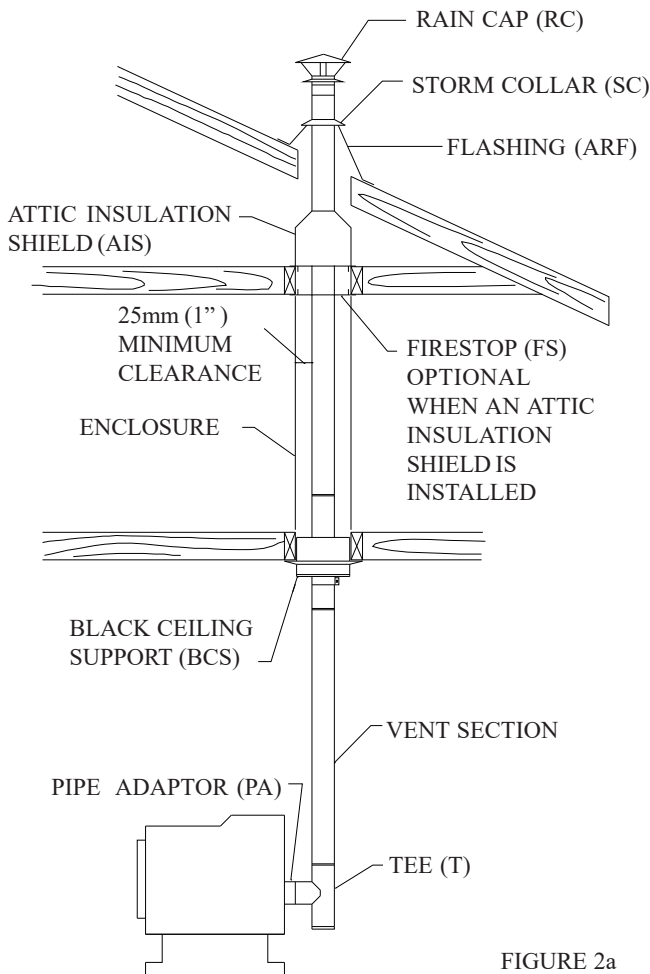

FIGURE 2a
1.1 General VENT layout is shown in Figures 2a, 2b and 3.
1.7 Install the BLACK CEILING SUPPORT (BCS) from below the joist level and fasten with 4 x 1.5" spiral nails or screws (see Figure 2a).
1.11 FIRESTOPS are required where the Vent penetrates a floor or ceiling. Cut a hole of the appropriate size in the ceiling/floor and install the FIRESTOP from above or below the joist. Fasten the FIRESTOP with nails through the corners as per Figure 2. An Attic Insulation Shield is also available where the venting passes into an attic space and is installed from above. When an Attic Insulation Shield is installed the Firestop installed from below is then optional as per Figure 2a.